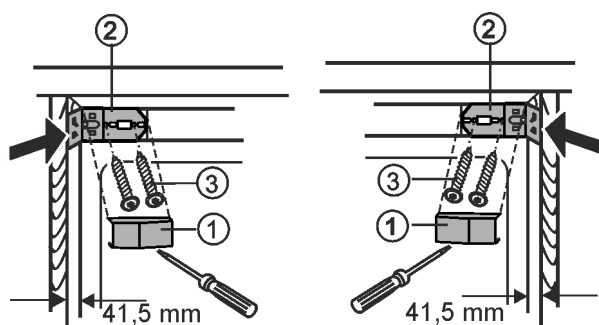
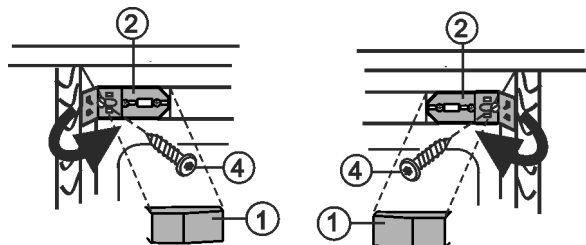

Fig. 11
Fig. 16
- ▶ Remove the cover Fig. 11 (1) at the top right and left.
- ▶ Screw in the fixing bracket Fig. 11 (2) loosely on the right and left with screws Fig. 11 (3).
- ▶ Fasten the appliance on the right and left with screws Fig. 16 (4) on the side wall of the unit. Tighten the screw Fig. 11 (3) fully.
- ▶ Fold up the side part of the mounting bracket Fig. 16 (2) and lock it in place.
- ▶ Snap the cover Fig. 16 (1) back into place.